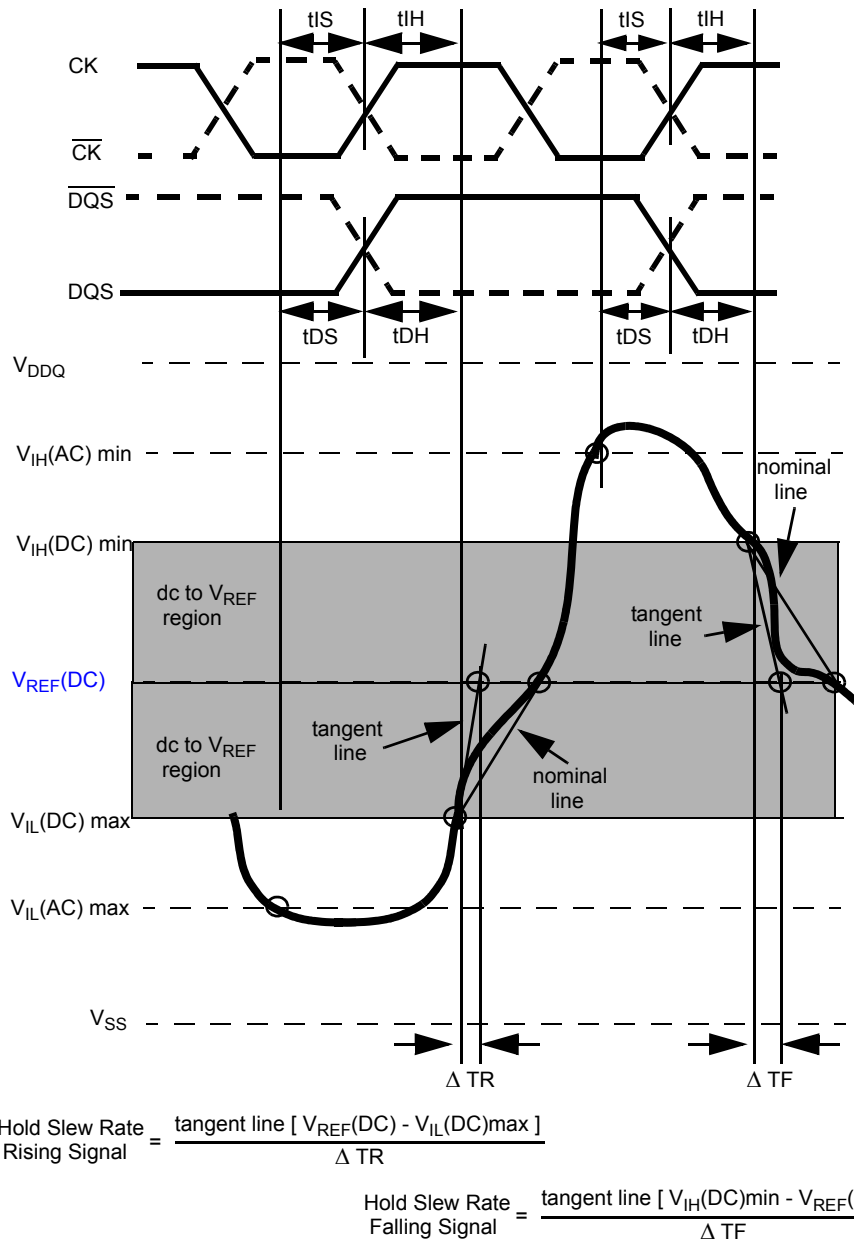

Figure 28. Illustration of tangent line for hold time  $t_{DH}$  (for DQ with respect to strobe) and  $t_{IH}$  (for ADD/CMD with respect to clock)
Hold (tDH) nominal slew rate for a rising signal is defined as the slew rate between the last crossing of VIL(DC)max and the first crossing of VREF(DC). Hold (tDH) nominal slew rate for a falling signal is defined as the slew rate between the last crossing of VIH(DC)min and the first crossing of VREF(DC) (see Figure ). If the actual signal is always later than the nominal slew rate line between shaded 'dc level to VREF(DC) region', use nominal slew rate for derating value. If the actual signal is earlier than the nominal slew rate line anywhere between shaded 'dc to VREF(DC) region', the slew rate of a tangent line to the actual signal from the dc level to VREF(DC) level is used for derating value (see Figure 28).